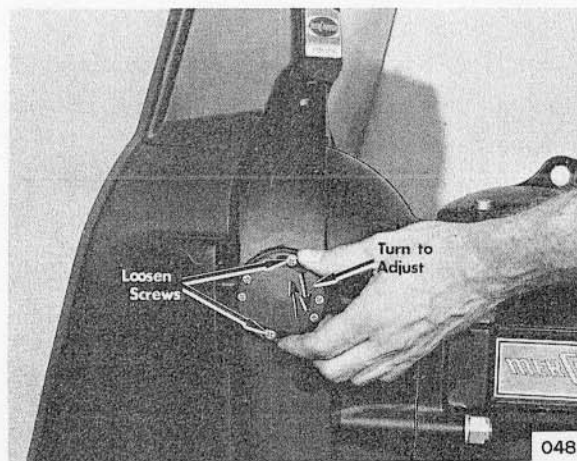

Figure 1. Adjusting Trim Limit Switch and/or Trim Indicator Sender
4. Loosen adjusting screws (Figure 1) while holding trim limit switch. (Normally, it is in the closed circuit position.)
2. Loosen adjusting screws (like Figure 1) while holding indicator sender.